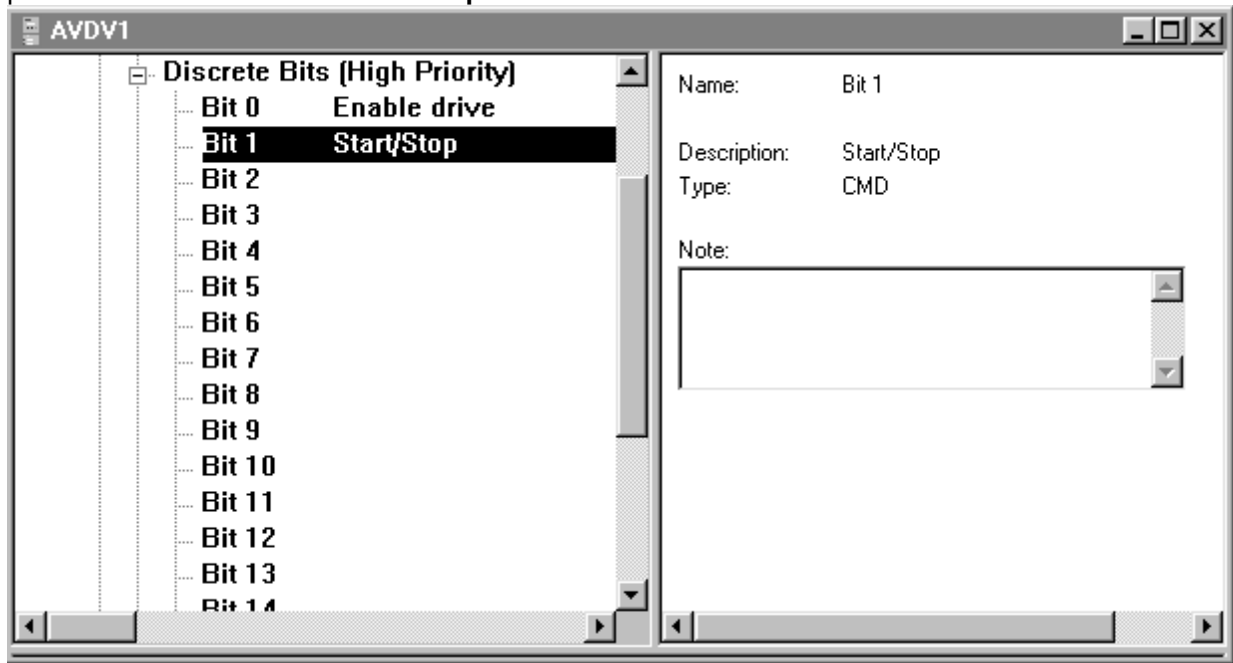

Figure 3.19
18. The following screen appears. Figure 3.19 screen depicts the status of Bit #1. In this example, the parameter select for Bit #1 is **Start/Stop**.